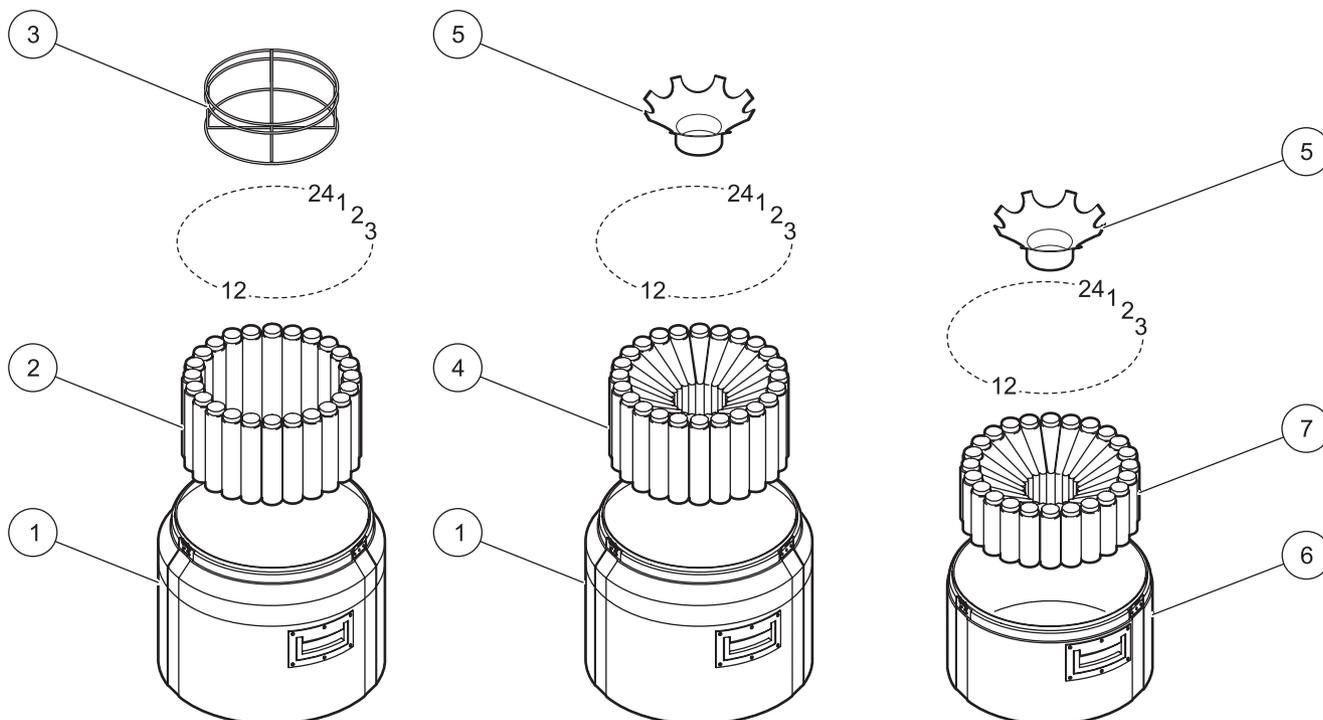

Figure 11 24 bottle installation
3. Place the retainer over the bottles with the knobs pointing up. Secure with the straps (Figure 11).